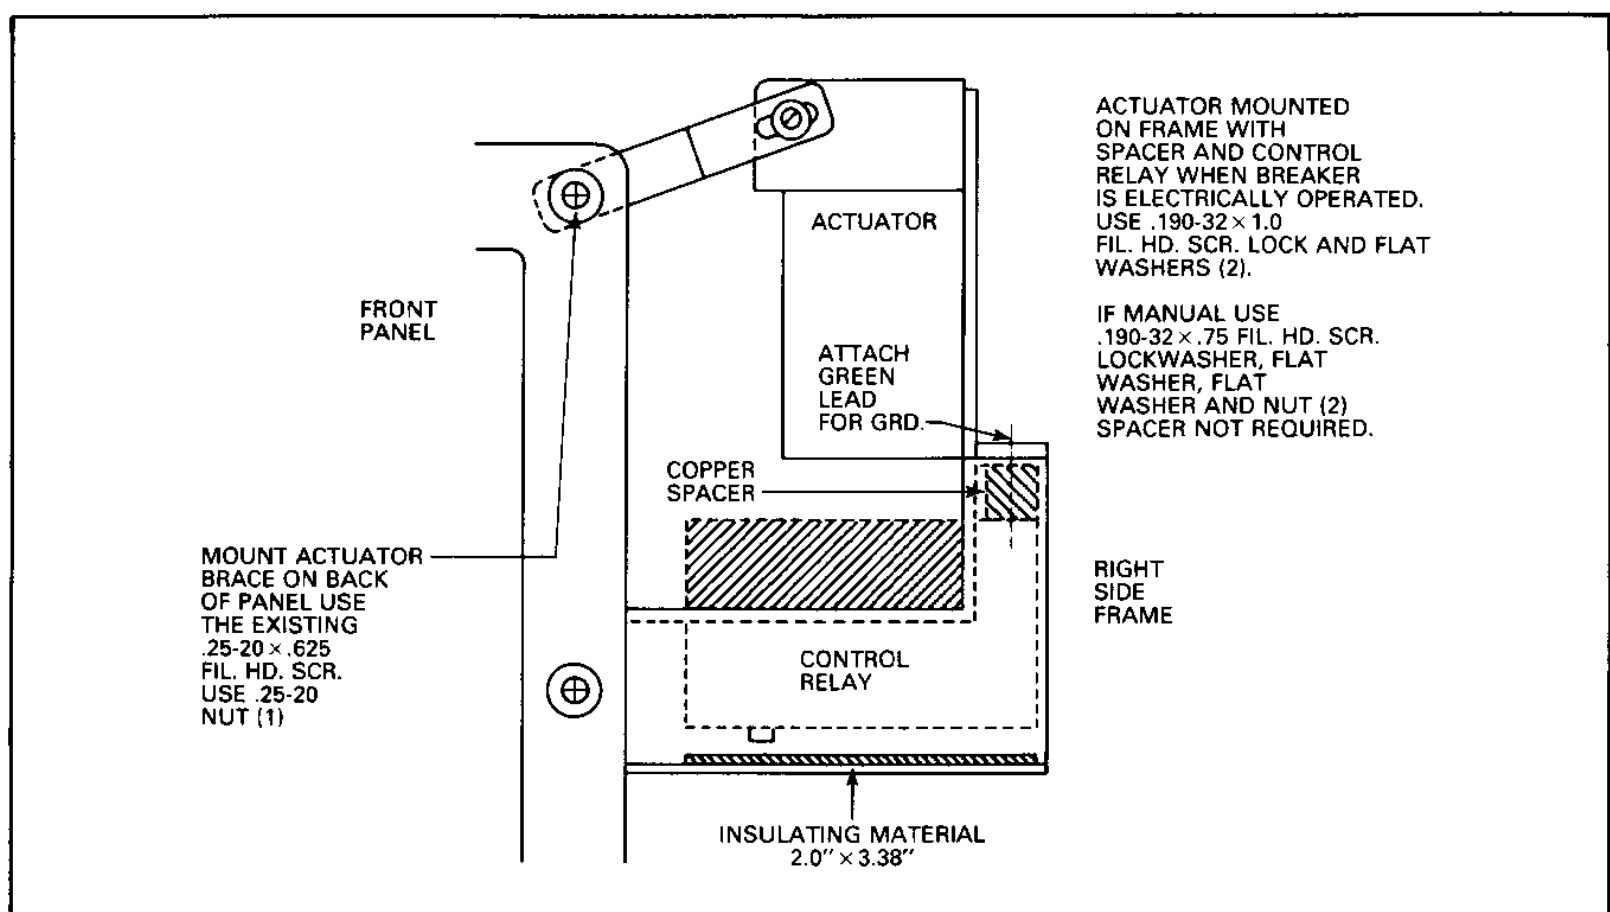

Fig. 6
Step 4: Place the insulating material 2" x 3.38" under where the terminals of the control relay will be. Fig. 6. Secure with adhesive.
Step 6: Secure the cross brace between the actuator and the existing .25-20 x $\frac{5}{8}$ " phillips head screw located on top right of the front panel, using a .25-20 nut. See Fig. 6.